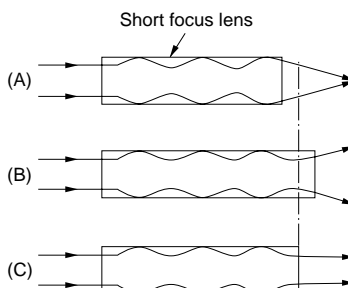

Fig. 2-6
Light rays entering the lens are repeatedly reflected inside the lens as shown in Fig. 2-6. The interval between these light ray reflections is proportionate to the wave length of the incident light.
For instance, when the lens is shorter than the ratio of the light wave length as in (A) of Fig. 2-6, the emerging light rays are focused. When it is longer as in (B), the emerging light rays are diffused. When the lens matches the ratio of the wave lengths as in (C), the emerging light rays are parallel rays and the image of the document is focused at its original size on the image plane.